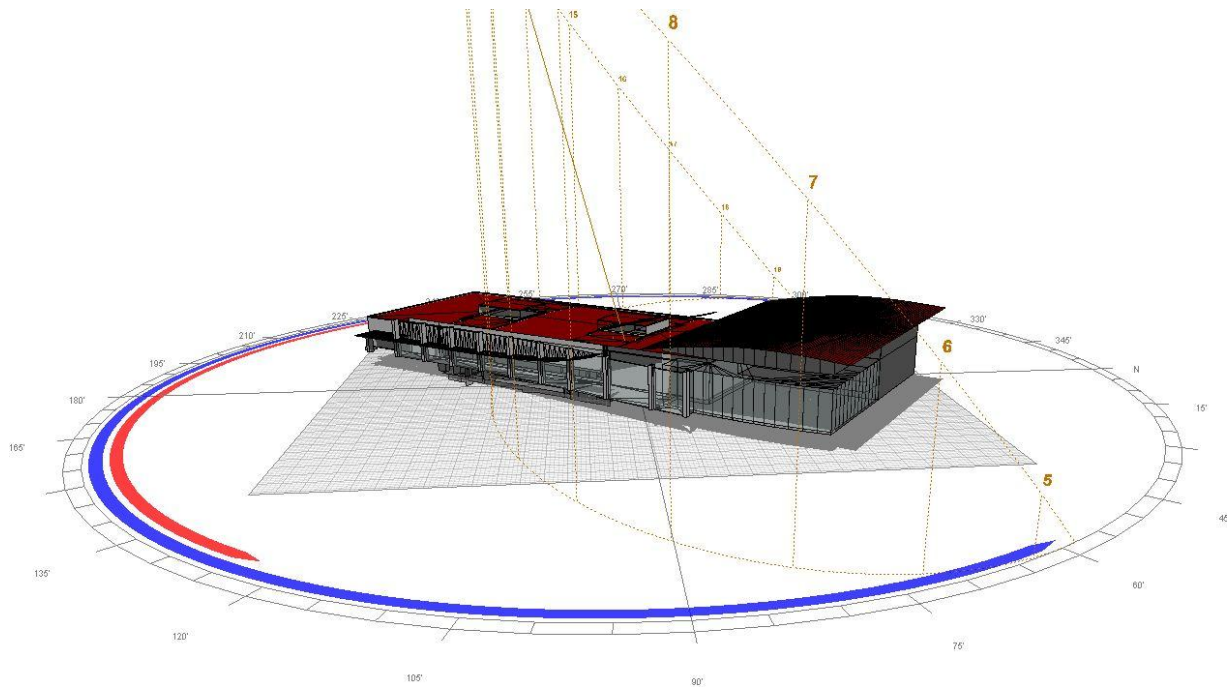

Fig. 1 – Solar study performed in Ecotect.
- In Ecotect, run a solar study. In the outcome of this study, you can analyze the shading devices from both a visual and numerical perspective. Fig. 1 shows an example of a solar study done in Ecotect.